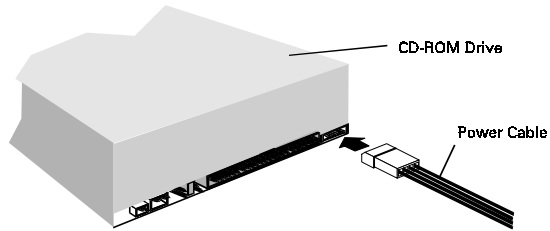

Figure 2-7: Connecting power cable to your CD-ROM drive.
2. Connect the power cable to the CD-ROM drive as shown in Figure 2-7.